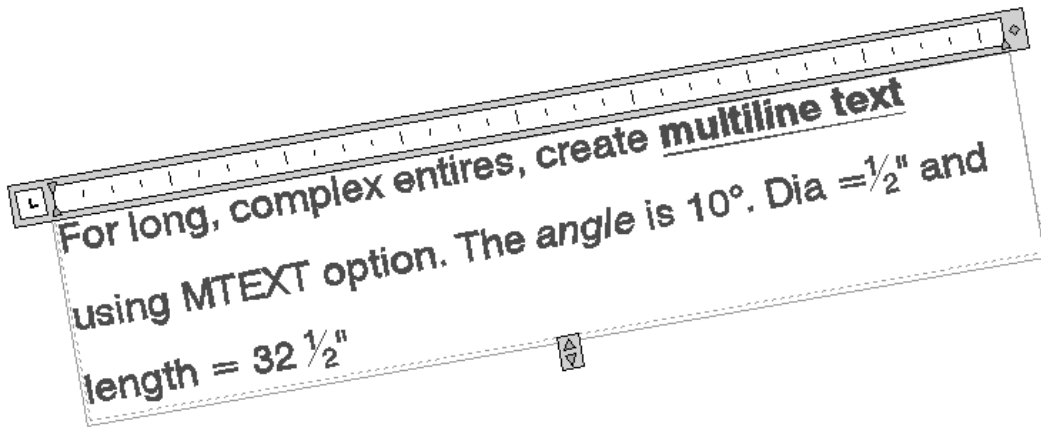

Figure 7-28 The In-Place Text Editor dialog box
5. Now, enter the text in the **In-Place Text Editor** dialog box, as shown in Figure 7-28. To add the degree symbol, choose the **Symbol** button from the **Insert** panel of the **Text Editor** tab in the **Ribbon**; a flyout is displayed. Choose **Degrees** from the flyout. When you type 1/2 after Dia = and then press the " key, AutoCAD displays the **AutoStack**